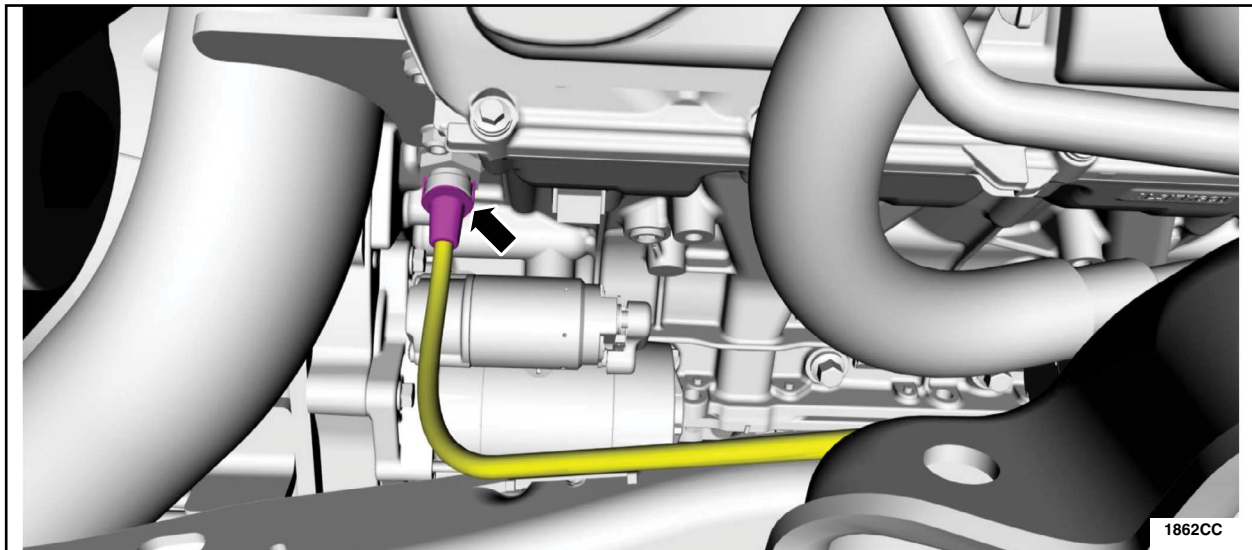

FIGURE 3
4. Disconnect the block heater electrical connector. See Figure 3.
9. Connect the *new* wire assembly to the block heater element. See Figure 3.